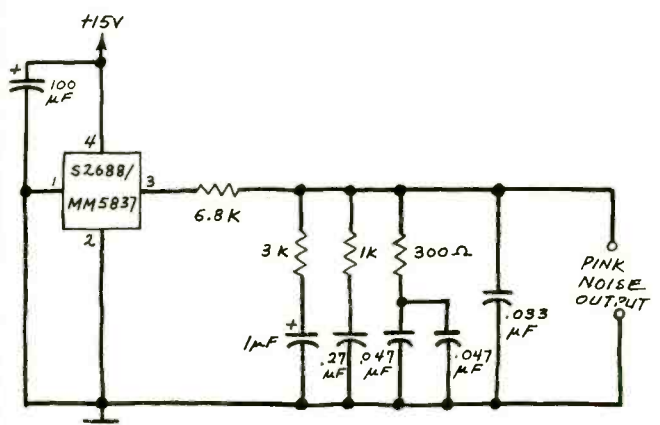

Fig. 6. Pink noise generator using S2688/MM5837.
**S2688/MM5837 Pink Noise Generator.** Pink noise, which is required for room equalizing and other acoustical applications, can be produced by following an S2688/MM5837 with a -3 dB/octave low-pass filter. One such filter appears in National Semiconductor's *Audio Handbook* (Fig. 2.17.6, p. 2-56) and is shown connected to an S2688/MM5837 in Fig. 6. The pink noise produced by this generator contains equal amounts of energy in each octave of the audio spectrum from 20 Hz to 20 kHz. The output is about 1 volt of pink noise superimposed on an 8.5-volt dc level.